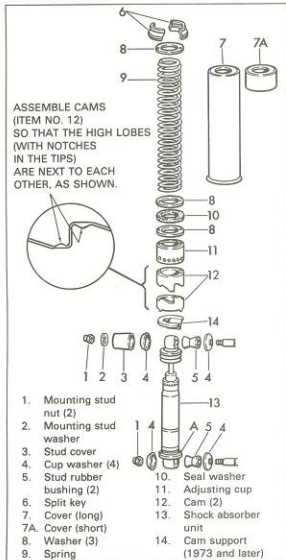
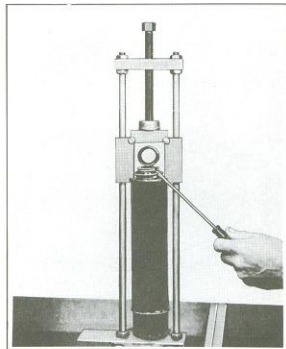

Figure 2-54. Rear Shock Absorber - Exploded View
Figure 2-55. Disassembling Shock Absorber
(Figure 2-54)
Remove top and bottom mounting stud nut (1), mounting stud washer (2), upper stud cover (3) and cup washer (4). Slip shock absorber assembly off upper and lower studs. Push rubber bushings (5) from shock absorber mounting eyes. Place shock absorber in Rear Shock Absorber Tool, Part No. 97010-52A with split key (6) up. Compress absorber spring enough to remove each half of split key (6) from flange on shock eye as shown in Figure 2-55. Release spring compression and remove absorber assembly from tool. Remaining items can be removed in order shown in Figure 2-54.
Apply a thin coat of grease to all surfaces of both cams. Note that cams (12) are identical and be sure to position cam lobes correctly as shown in Figure 2-54 inset. Place assembly in compressor tool and compress spring enough to install key halves (6). Release spring compression. Keys will lock into place in inside diameter of covers 7 or 7A.
Install each shock absorber on motorcycle with slot in cam support (A, Figure 2-54) facing toward wheel.